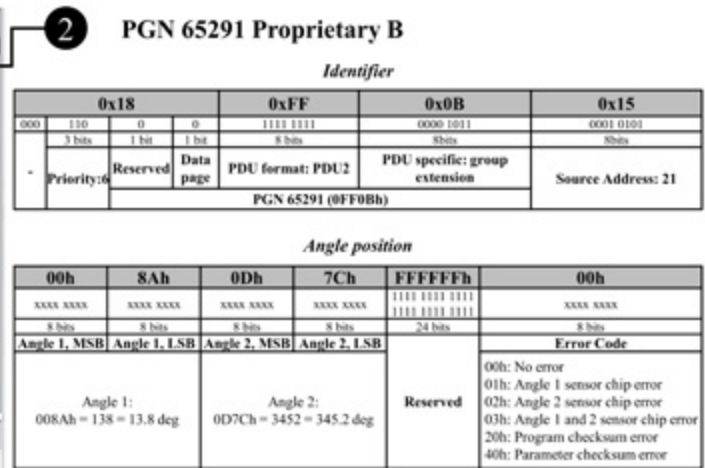

Figure 8. Example: angle position message.
- After the sensor has acquired a valid address, it starts sending the angle position message according to PGN 65291 as shown in the example of Figure 8 a pagina 10. The message is composed of: